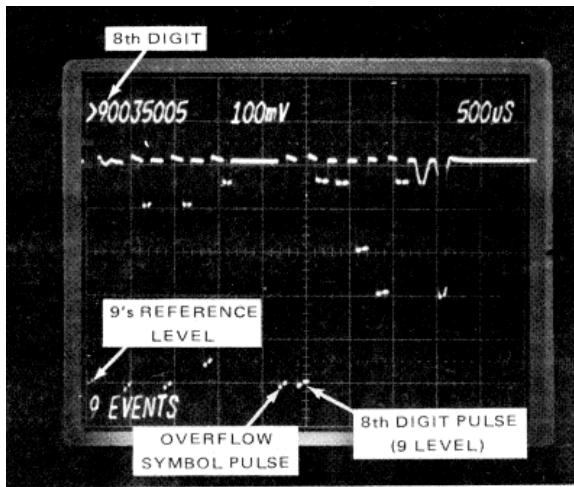

Fig. 5-5. A properly adjusted 8th Digit Pulse, compared to the 9's Reference Level.
q. Reconnect the signal to the 7D15 input and allow the count to increase until the 8th digit pulse reaches the most negative level. At this point, stop the input signal to the 7D15 (see Fig. 5-5).
- r. Adjust R760 until the bottom of the 8th digit pulse is at the same level as the 9 reference pulse. See Fig. 5-5 for a properly adjusted 8th digit pulse.